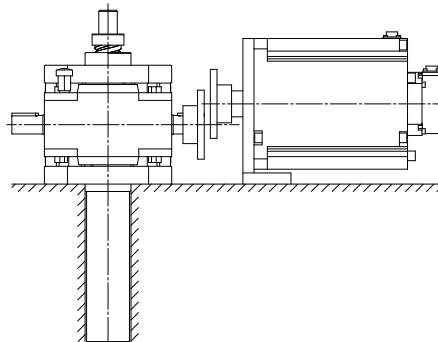

Fig. 1
7. When installing a motor and reducer unit in addition to the jack body, prepare a robust counter making allowance for a safety factor to prevent alignment accuracy at installation from being reduced even if the maximum load is applied. Make sure that the transmission shaft connected to the input shaft is aligned accurately (Fig.1).